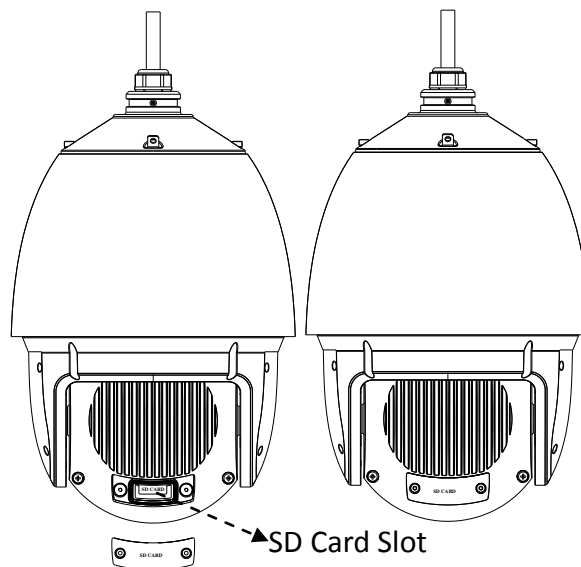

Figure 1-3 SD Card Slot
- Remove the cover on the back of the speed dome as shown in Figure 1-3. Insert the SD card to the SD card slot and install the cover back.